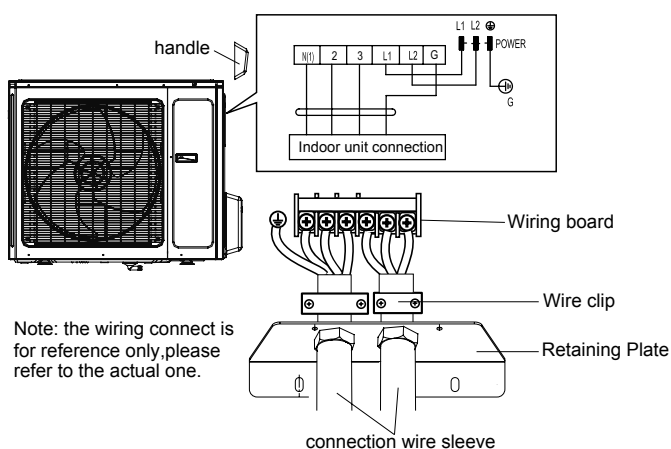

Fig.23
- (1) Let the connection wire sleeve go through the two holes of retaining plate ; tighten the connection joint of sleeve and retaining plate; remove the wire clip; connect the power connection wire and power cord to the wiring terminal according
- (2) Fix the power connection wire and power cord with wire clip.
- (3) Fix the stopper on handle with screw.(As show in Fig.23)